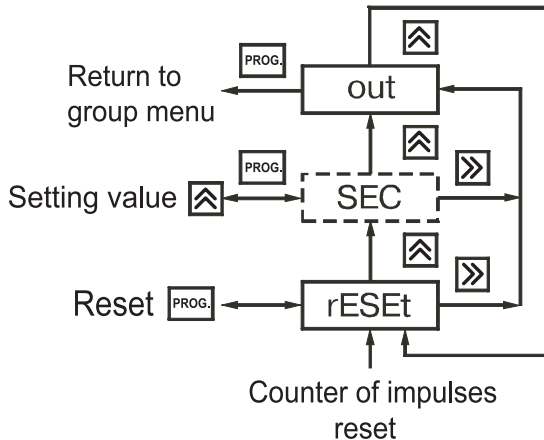

Figure 28.
6.1.11. **c.rES** group (figure 28) is used to reset counter of impulses (the predivider thus is zeroed).